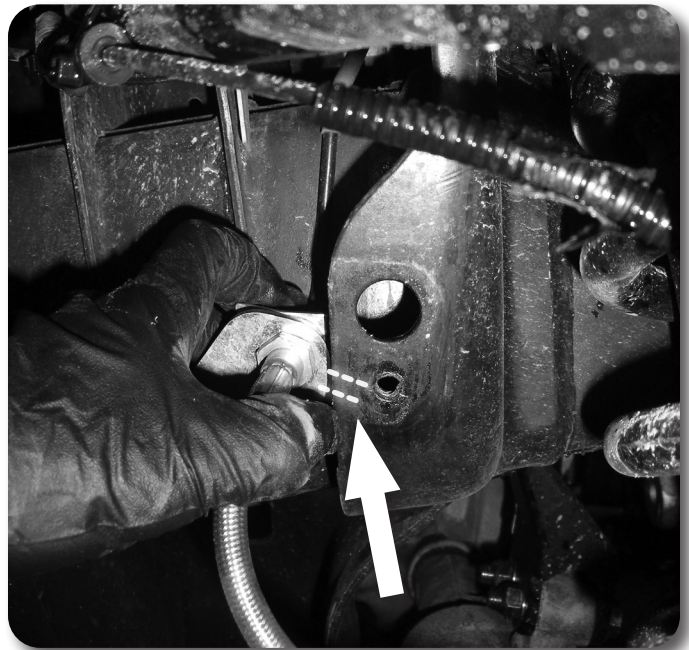

Figure 4
12. Disconnect the brakeline hardware from the strut tower and pull the brakeline through the mount. Cut a slot to allow the brakeline to be removed from the frame. If you do not wish to cut on the coil bucket, the line can be disconnected and reconnected after it is removed from the frame. If the line is disconnected the brakes must be bled once the installation is completed. Fig. 4